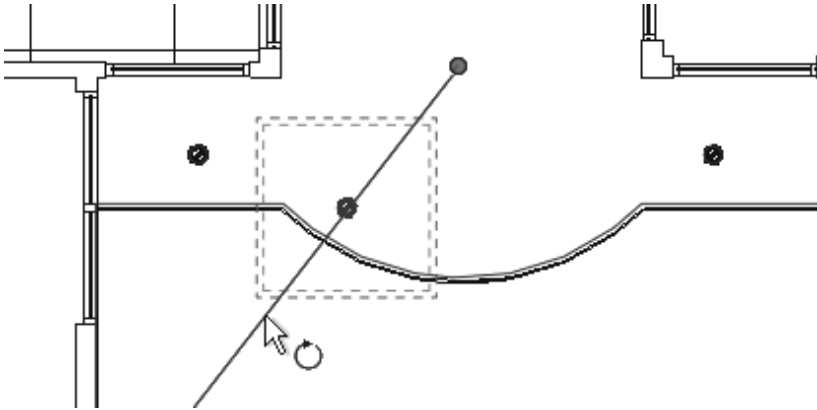

Figure 2–57
4. Drag  (Center of Rotation) or in the Options Bar click **Place** to the move the center of rotation to the appropriate location, as shown in Figure 2–57.